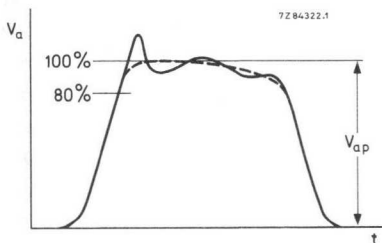

Fig. 2 Voltage pulse.
- $dV_a/dt$  or  $\Delta V_a/\Delta t_{rV}$  Unless otherwise stated the rate of rise of voltage  $dV_a/dt$  is defined by the steepest tangent to the leading edge of the voltage pulse above 80% of the smooth peak value (see Fig. 2).